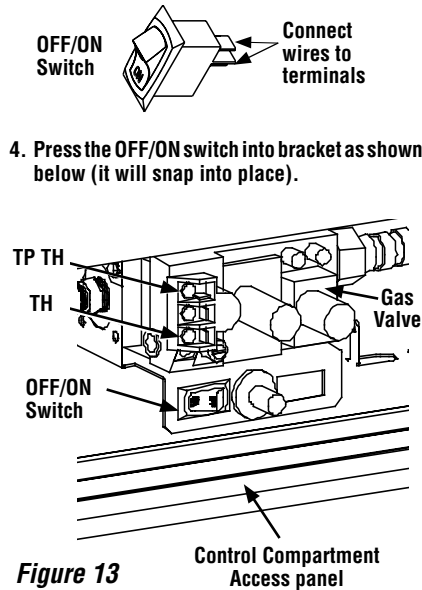

Figure 13
- a. **Standard OFF/ON Switch** - Install the OFF/ON burner control switch (rocker switch) as shown in **Figures 13 and 14**.